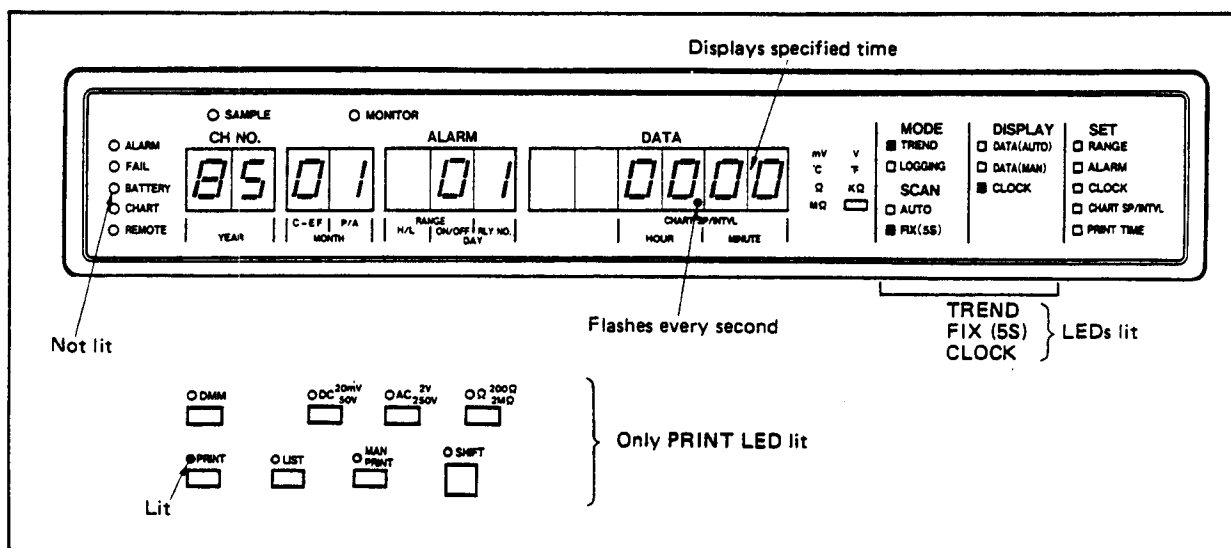

Figure 10-10.
3) With the instrument set as above, turn off the instrument power supply and after at least 10s has elapsed, check that the instrument display is as shown in Figure 10-10.